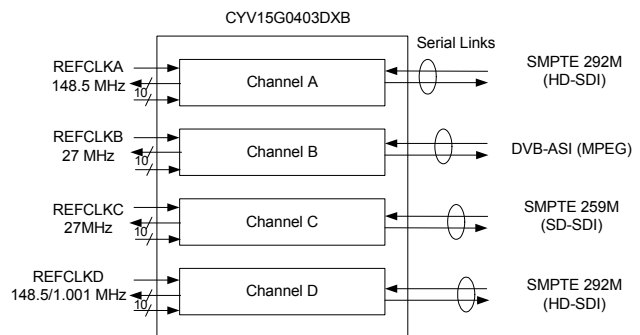

Figure 1. Example Showing Video Data Transfer from Multiple Protocols Over the Same CYV15G0403DXB Device
1. Multiple protocols over different channels: Each channel can transmit and receive traffic from a different protocol. For example, Channel A can be configured to pass SMPTE 292M data (HD-SDI), while Channel B can be configured to pass DVB-ASI (MPEG) data and Channel C can be configured to pass SMPTE 259M data (SD-SDI). An example of this application is illustrated in *Figure 1*.